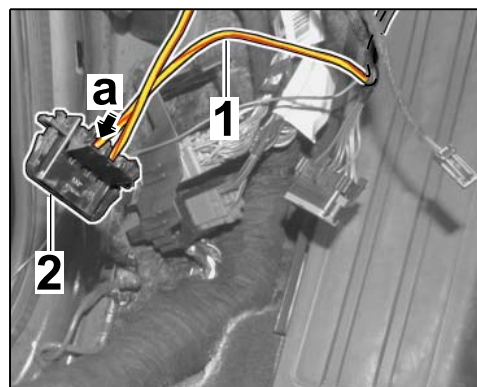

Figure 40
- 4.12.1 Insert RD/YE line \Rightarrow *Figure 40-1-* into the plug socket of the disconnection point \Rightarrow *Figure 40-2-* \Rightarrow *Figure 40-a-*.